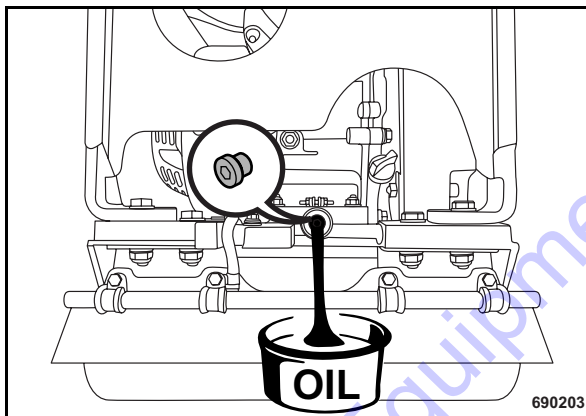

Fig. 49
- Unscrew the oil drain plug and catch any oil running out (Fig. 49).